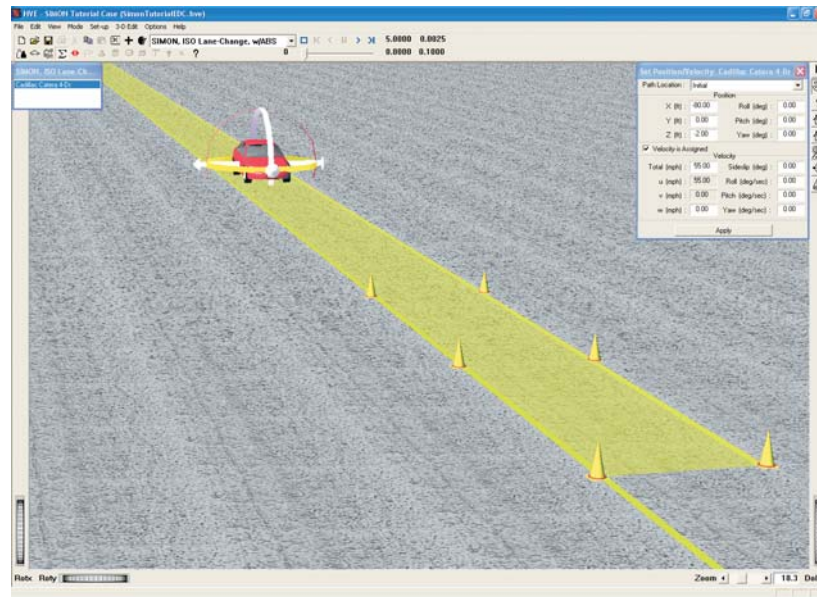

Figure 5-4 Event Editor, setting up our first SIMON event. The Position/Velocity dialog is used for assigning the Cadillac's initial position and velocity.
- Choose *Set-up* from the menu bar and select *Position/Velocity*. The Cadillac Catera is displayed at the earth-fixed origin. The Position/Velocity dialog displays the position and velocity for the *Initial* path position (see Figure 5-4).